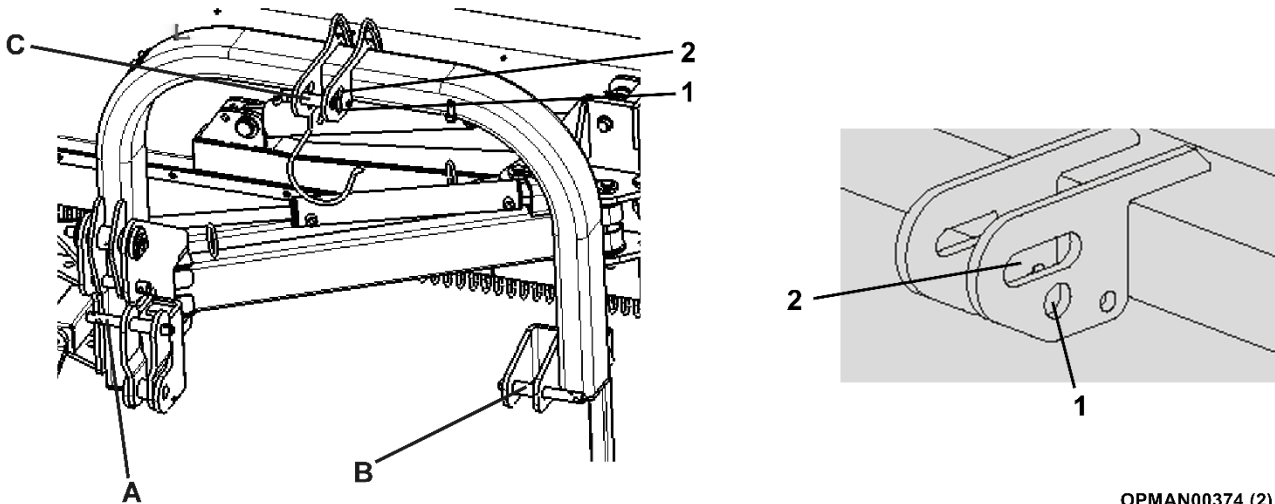

Figure 9
Proceed as follows for the coupling (see Figure 9):
- A fixed hole (ref Figure 9 (1)); which should be used for transport purposes.
- A slotted hole (ref Figure 9 (2)); which should be used for working purposes.
The fixed hole (ref Figure 9 (1)) should be used during transport purposes, when the machine is out of work, folded up and is required to be lifted off the ground. The fixed hole ensures the machine remains as stationary as possible and will not move when its carried by the tractor.
The slotted hole (ref Figure 9 (2)) should be used when the machine is operating at work. The slotted hole allows the machine to follow ground contours more effectively, giving better operation and final finish of the cut material.